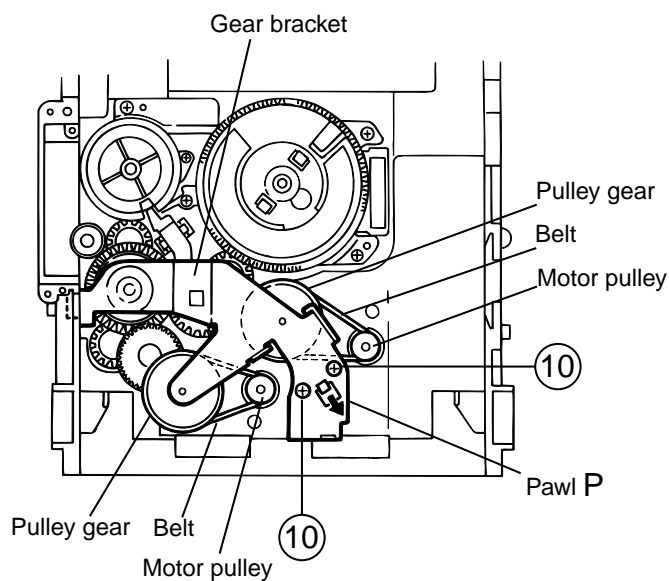

Fig.19
■ Removing the actuator motor and belt (See Fig.19~22)
1. Remove the two screws 10 retaining the gear bracket (See Fig.19).
2. While pressing the pawl "P" fixing the gear bracket in the arrow direction, remove the gear bracket (See Fig.19).
4. Remove the belts respectively from the right and left actuator motor pulleys and pulley gears (See Fig. 19).